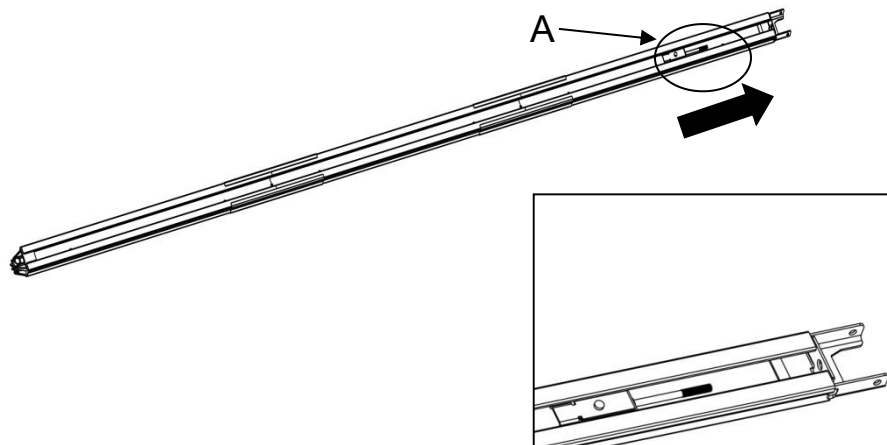

Fig. 9
4. As Fig.9, pull the screw rod "A" along with inner chain to the end of top rail ;